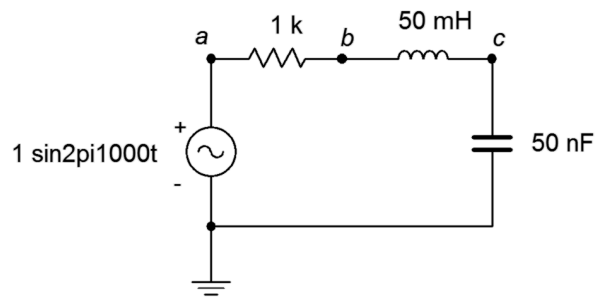

Figure 2.19
33. For the circuit of Figure 2.19, determine the circulating current and the voltages across each component.
62. For the circuit of Figure 2.19, determine a new frequency such that $|X_C| = |X_L|$.